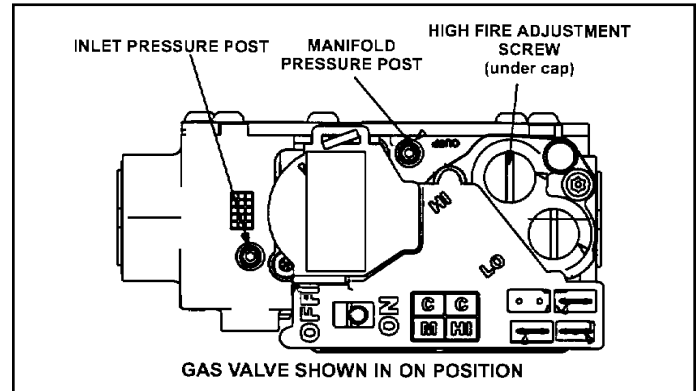

Figure 58. Gas Valve Shown In "ON" Position
6. Move gas valve switch to OFF. See Figure 58.
8. Move gas valve switch to ON. See Figure 58.
1. A manifold post located on the gas valve provides access to the manifold pressure. See Figure 58. Back out the 3/32 Hex screw one turn, connect a piece of 5/16" tubing and connect to a manometer to measure manifold pressure.